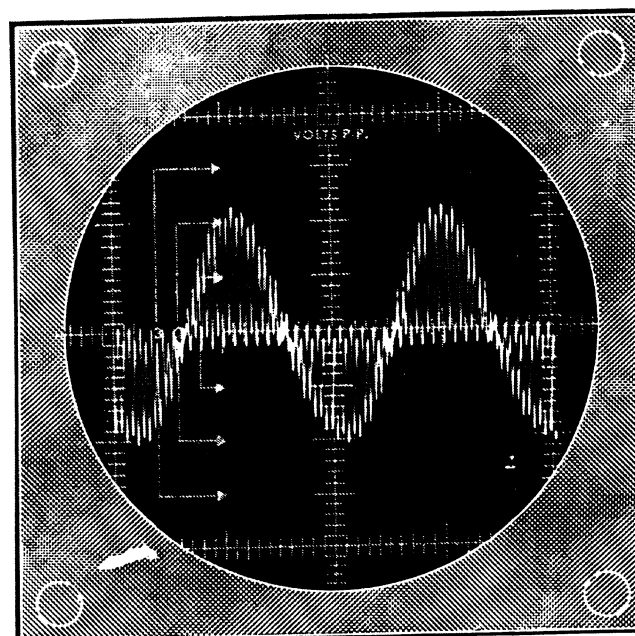

Figure 7
- () Adjust the PILOT LEVEL trimmer capacitor, on the rear panel, to obtain a 19 kHz signal at the center of the waveform. The amplitude of the 19 kHz signal should be equal to 10% of the entire composite signal pattern. See Figure 7.